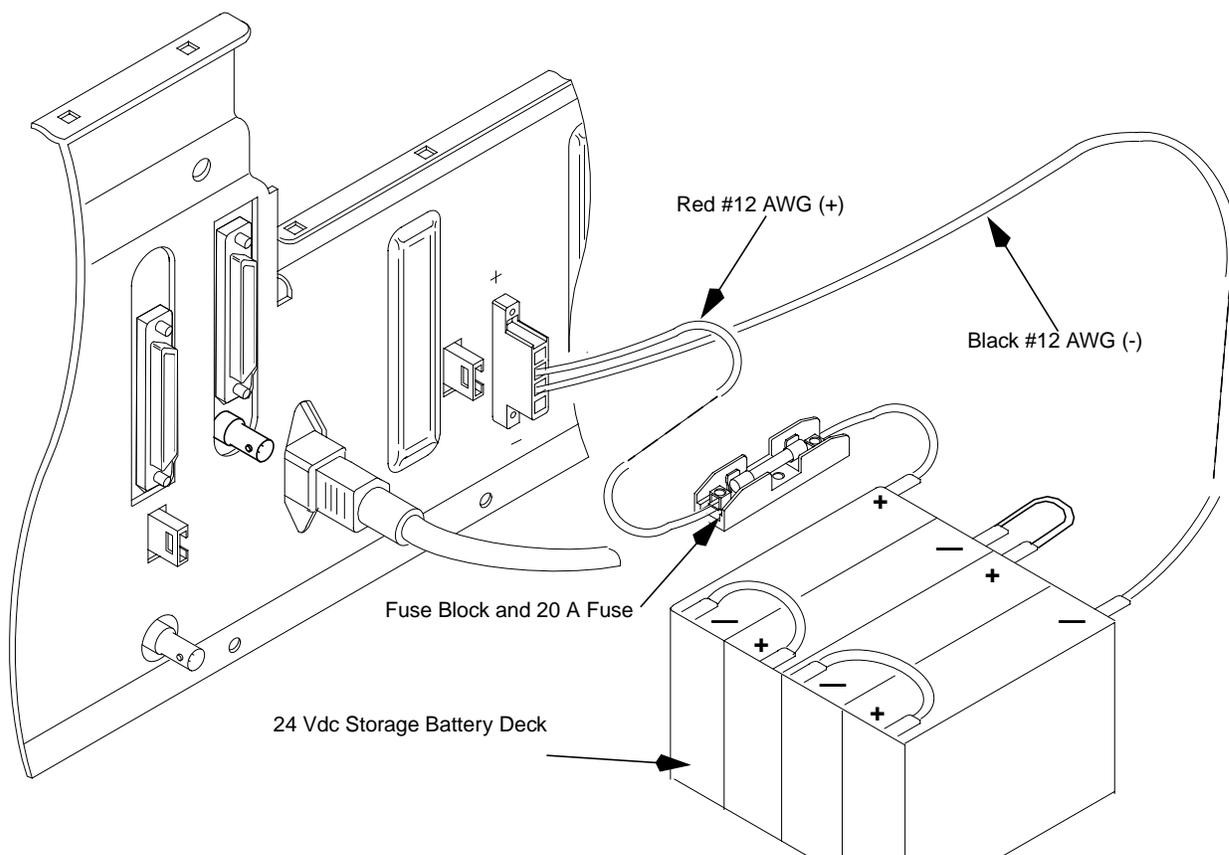

Figure 5-11: Battery Revert in a High Power Station
1. Arrange the batteries to facilitate connection (- to +) and place them together to form a deck (see Figure 5-11).